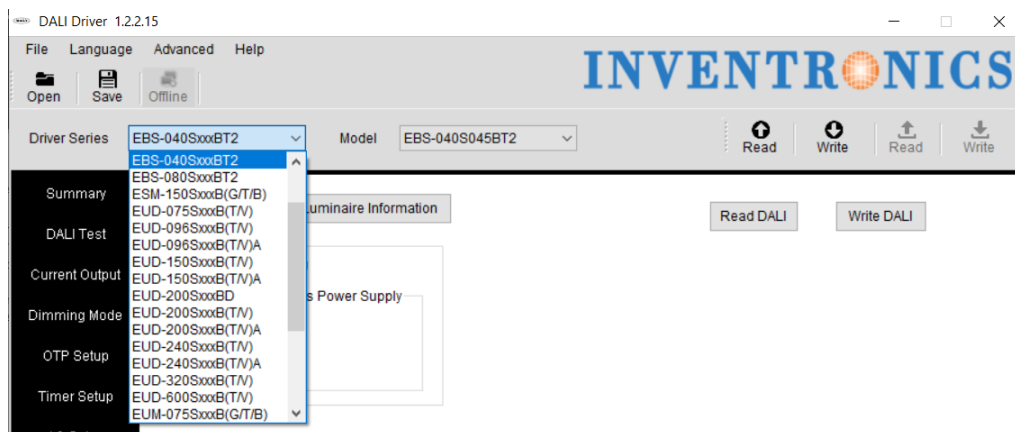

Figure 4: Series Selection for Multi-Program
- a. If using the PRG-MUL2 to disable the DALI Bus supply of multiple drivers at once, click “Driver Series” and select the correct driver, as shown in Figure 4.